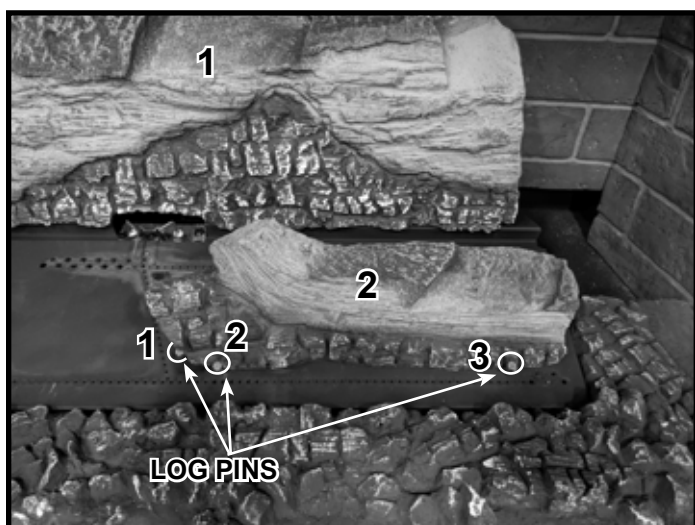

Figure 4 Position Log #2
**Log #2:** Place Log #2 using the three log pins as shown in Figure 4.